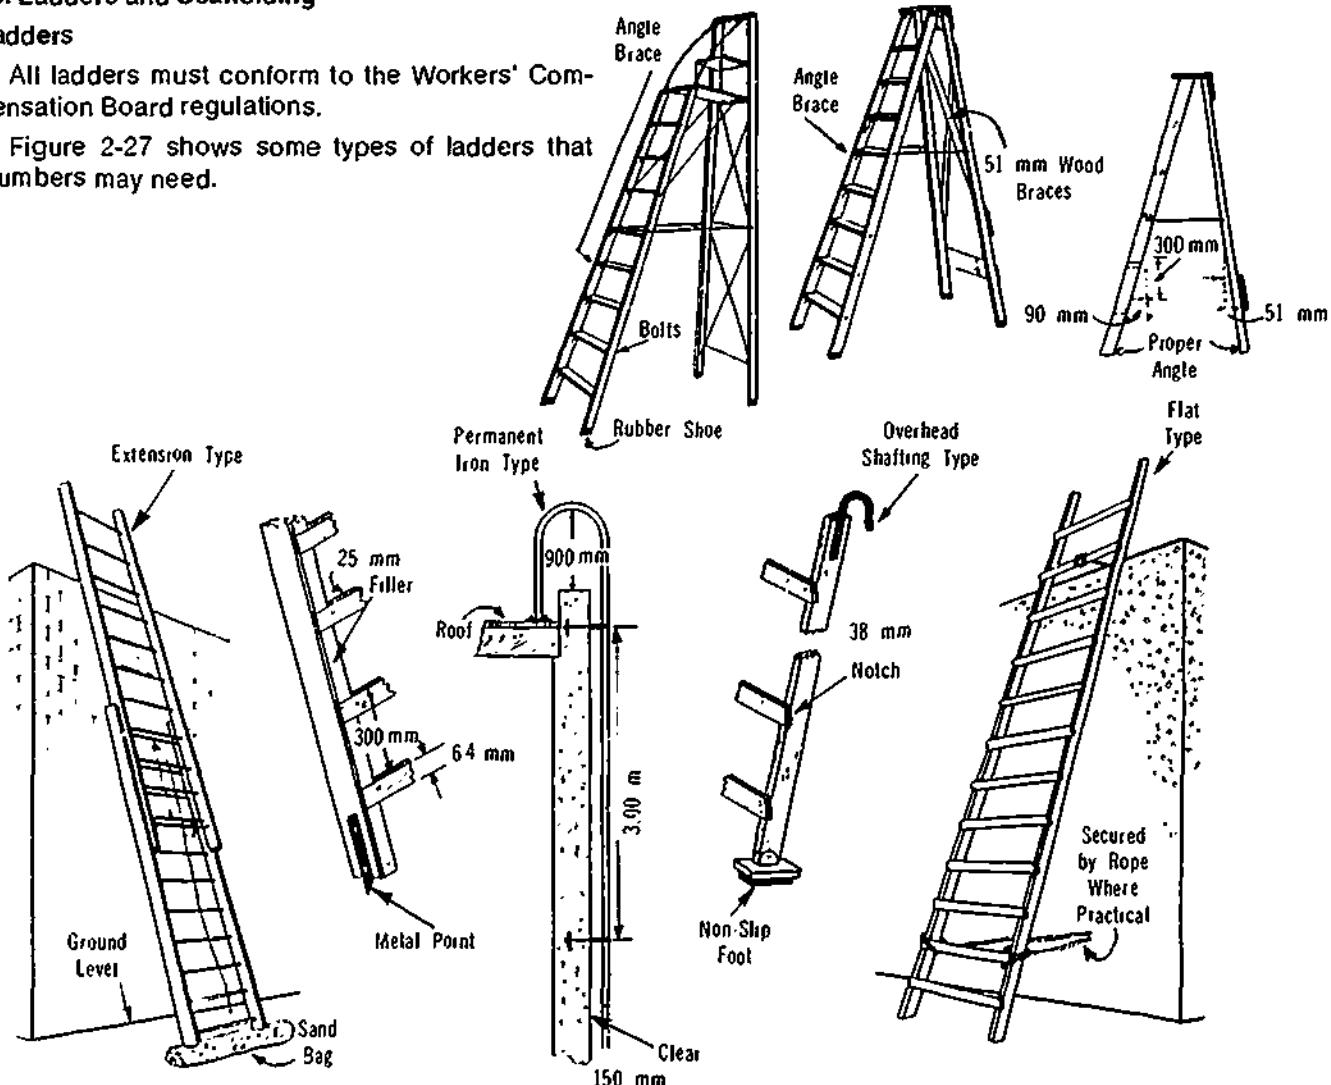

Figure 2-27. Types of Ladders
- b) Figure 2-27 shows some types of ladders that plumbers may need.